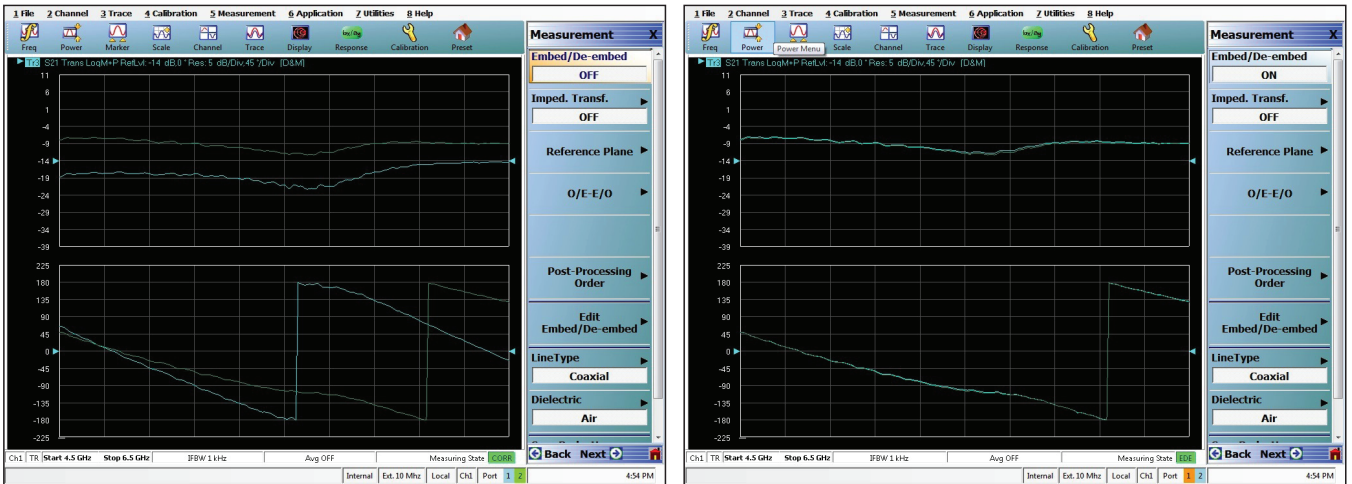

Figure 12: Measurement results with de-embedding turned off (plot on left) and on (plot on right)
8. We can now turn de-embedding on and off to see how the results change. Figure 12 shows plots with de-embedding on (device 2 response only) and off (response of device 1 & 2).